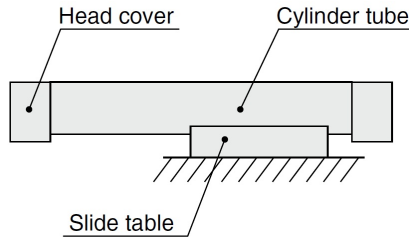

Fig. 4: Product mounting with the slide table fixed
- Do not mount the product with the slide table fixed as shown in Fig. 4. Excessive load will be applied to the bearing, and it may cause operation failure.